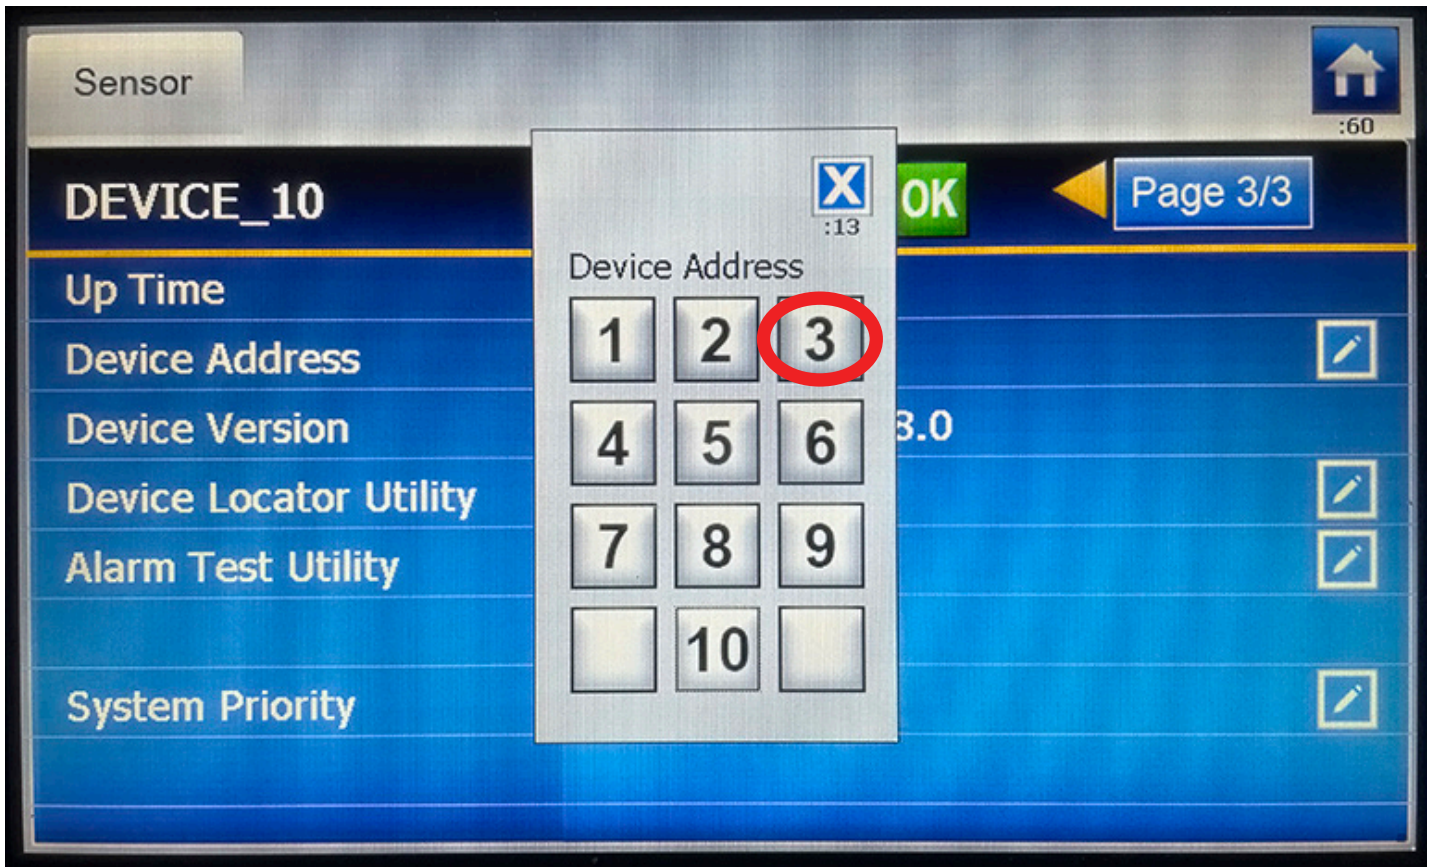

Figure 23: Device Address Select Screen
**Step 5:** A small window will then pop up asking which address you would like to change the sensors to. For this example, the user will click “3”, as indicated in Figure 23. As a note, when changing the address of the sensor(s), the Control Station will reposition all the sensors at the current address to the new address.